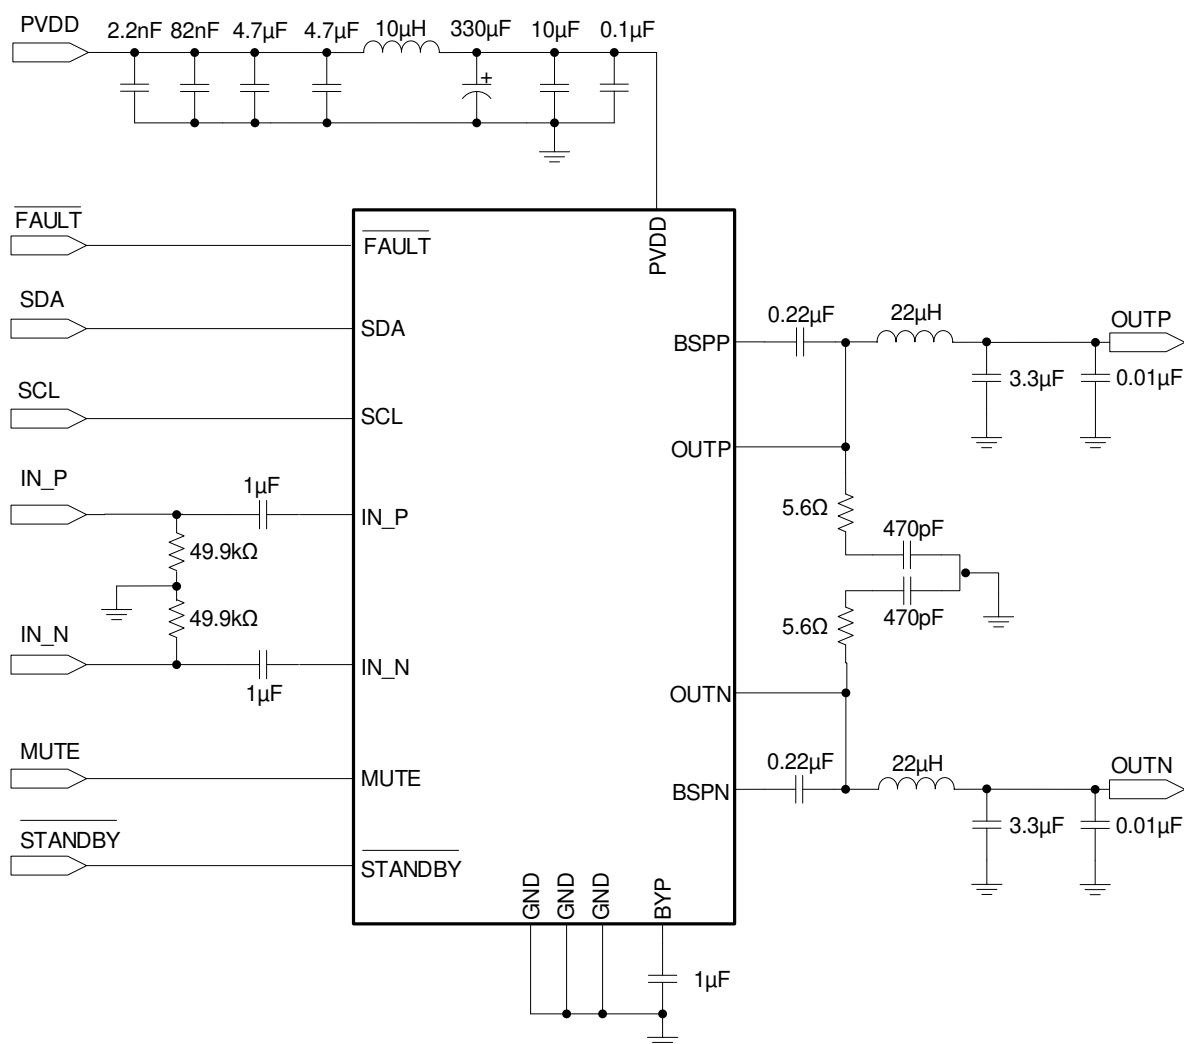

图 8-1. TAS5431-Q1 Typical Application Schematic
The output stage uses dual NMOS transistors; therefore, the circuit requires bootstrap capacitors for the high side of each output to turn on correctly. The required capacitor connection is from BSTN to OUTN and from BSTP to OUTP as shown in 图 8-1.
- Step 1: Hardware Schematic Design: Using the 图 8-1 as a guide, integrate the hardware into the system schematic.